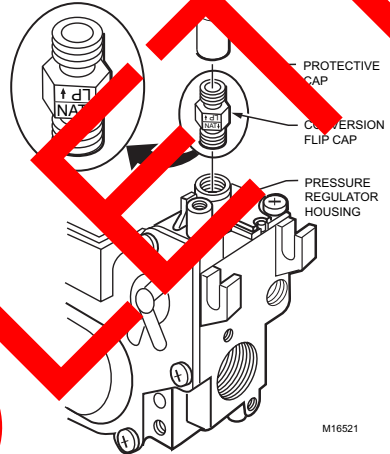

Fig. 1. Converting the gas valve.
If the factory pressure regulator setting meets the appliance manifold requirement, convert the gas valve as follows (see Fig. 1):
2. With the main burner operating, check the gas valve flow rate using the meter closing method or measure the pressure by attaching a pressure tube with a 1/4 in. shell ID to a manometer by connecting the manometer to the outlet pressure tap on the gas valve. See Figure 1.